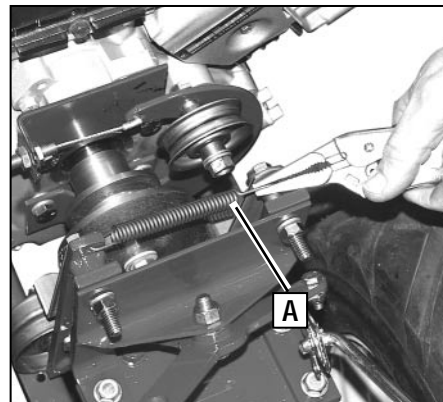

Figure 5-14: Unhook forward idler return spring.
3. Using needle-nose pliers, carefully unhook the forward idler return spring (A, Figure 5-14) from the reverse idler bracket assembly.
5. Reattach the forward idler return spring (A, Figure 5-14) to the bushing/screw assembly on the reverse idler bracket assembly.